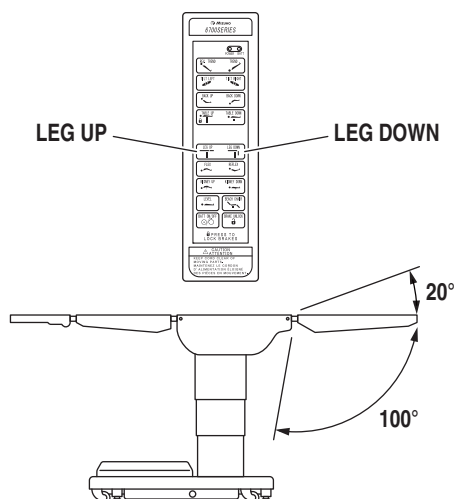

Figure 2-11. Leg Section Positioning
**f. Leg Section** To lower the leg section, press the LEG DOWN button (figure 2-11). The leg section will go down to 100° below horizontal. To raise the leg section, press the LEG UP button. The leg section will go up to 20° above horizontal.